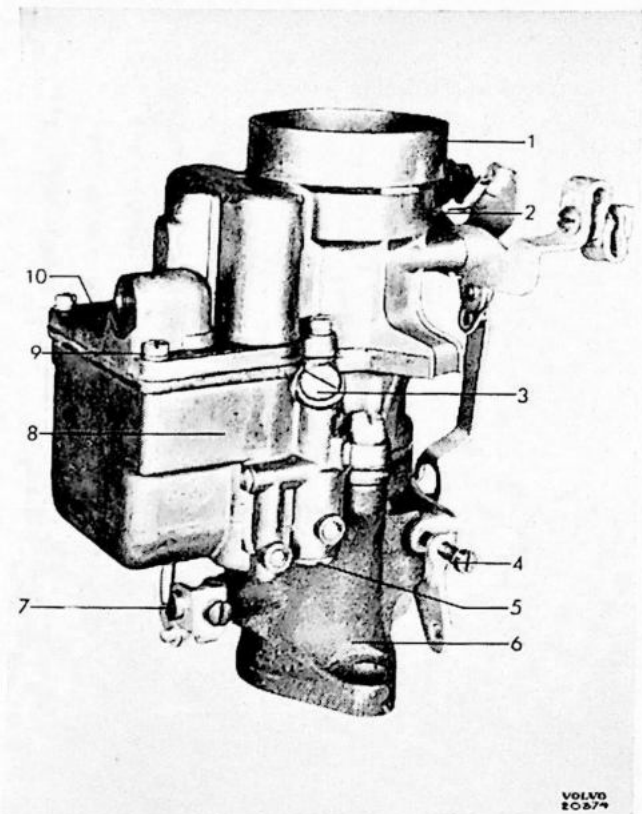

Fig. 88.
off bowl cover. Separate main body (11) and body flange (7). Remove air screw (8), main jet plug (4) and idle jet plugs (3 and 5), also pump filter plug (5, Fig. 88), inlet and outlet valves, and accelerator jet plug (3).